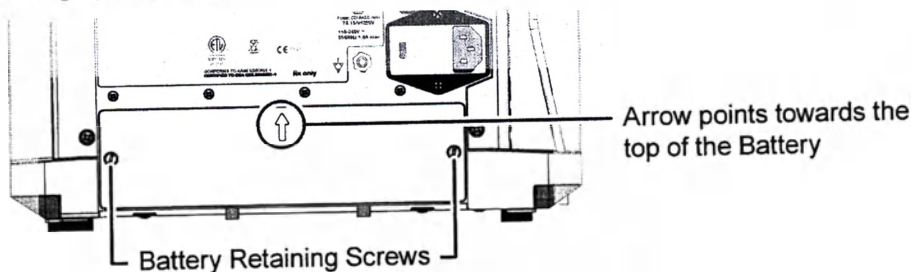

Figure 6: Battery Compartment
2. Position the Battery near the Battery Compartment with the arrow on the outside cover pointing up (Figure 6).